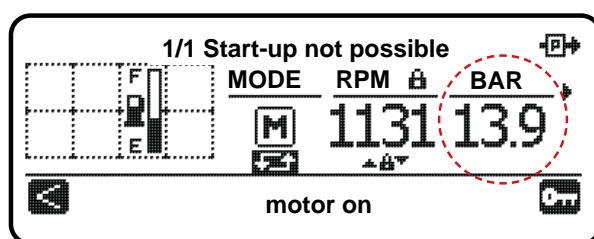

Fig. 39
1. Use     to position the focus on the **(BAR)** (Fig. 39) pressure value;